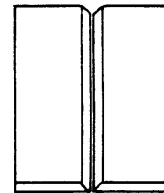

Figure 2.4
- Position the metal so that the joint to be welded is in the vertical position. (See Figure 2.4)